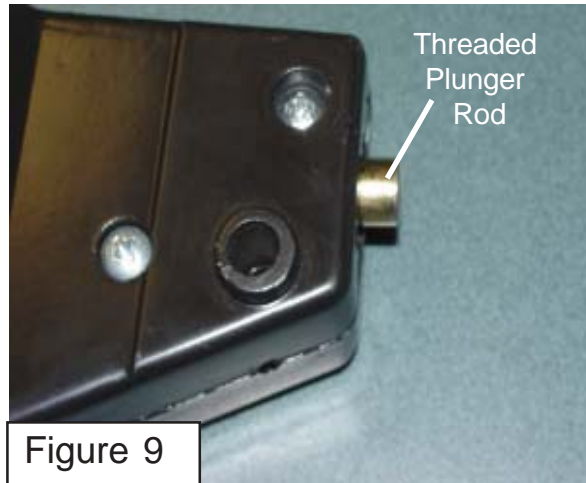

Figure 9
6. Threaded Plunger Rod. While holding the housing, fully shift the Handle in the Control Stick Assembly to expose the female-threaded end of the Plunger Rod (See Figure 9).